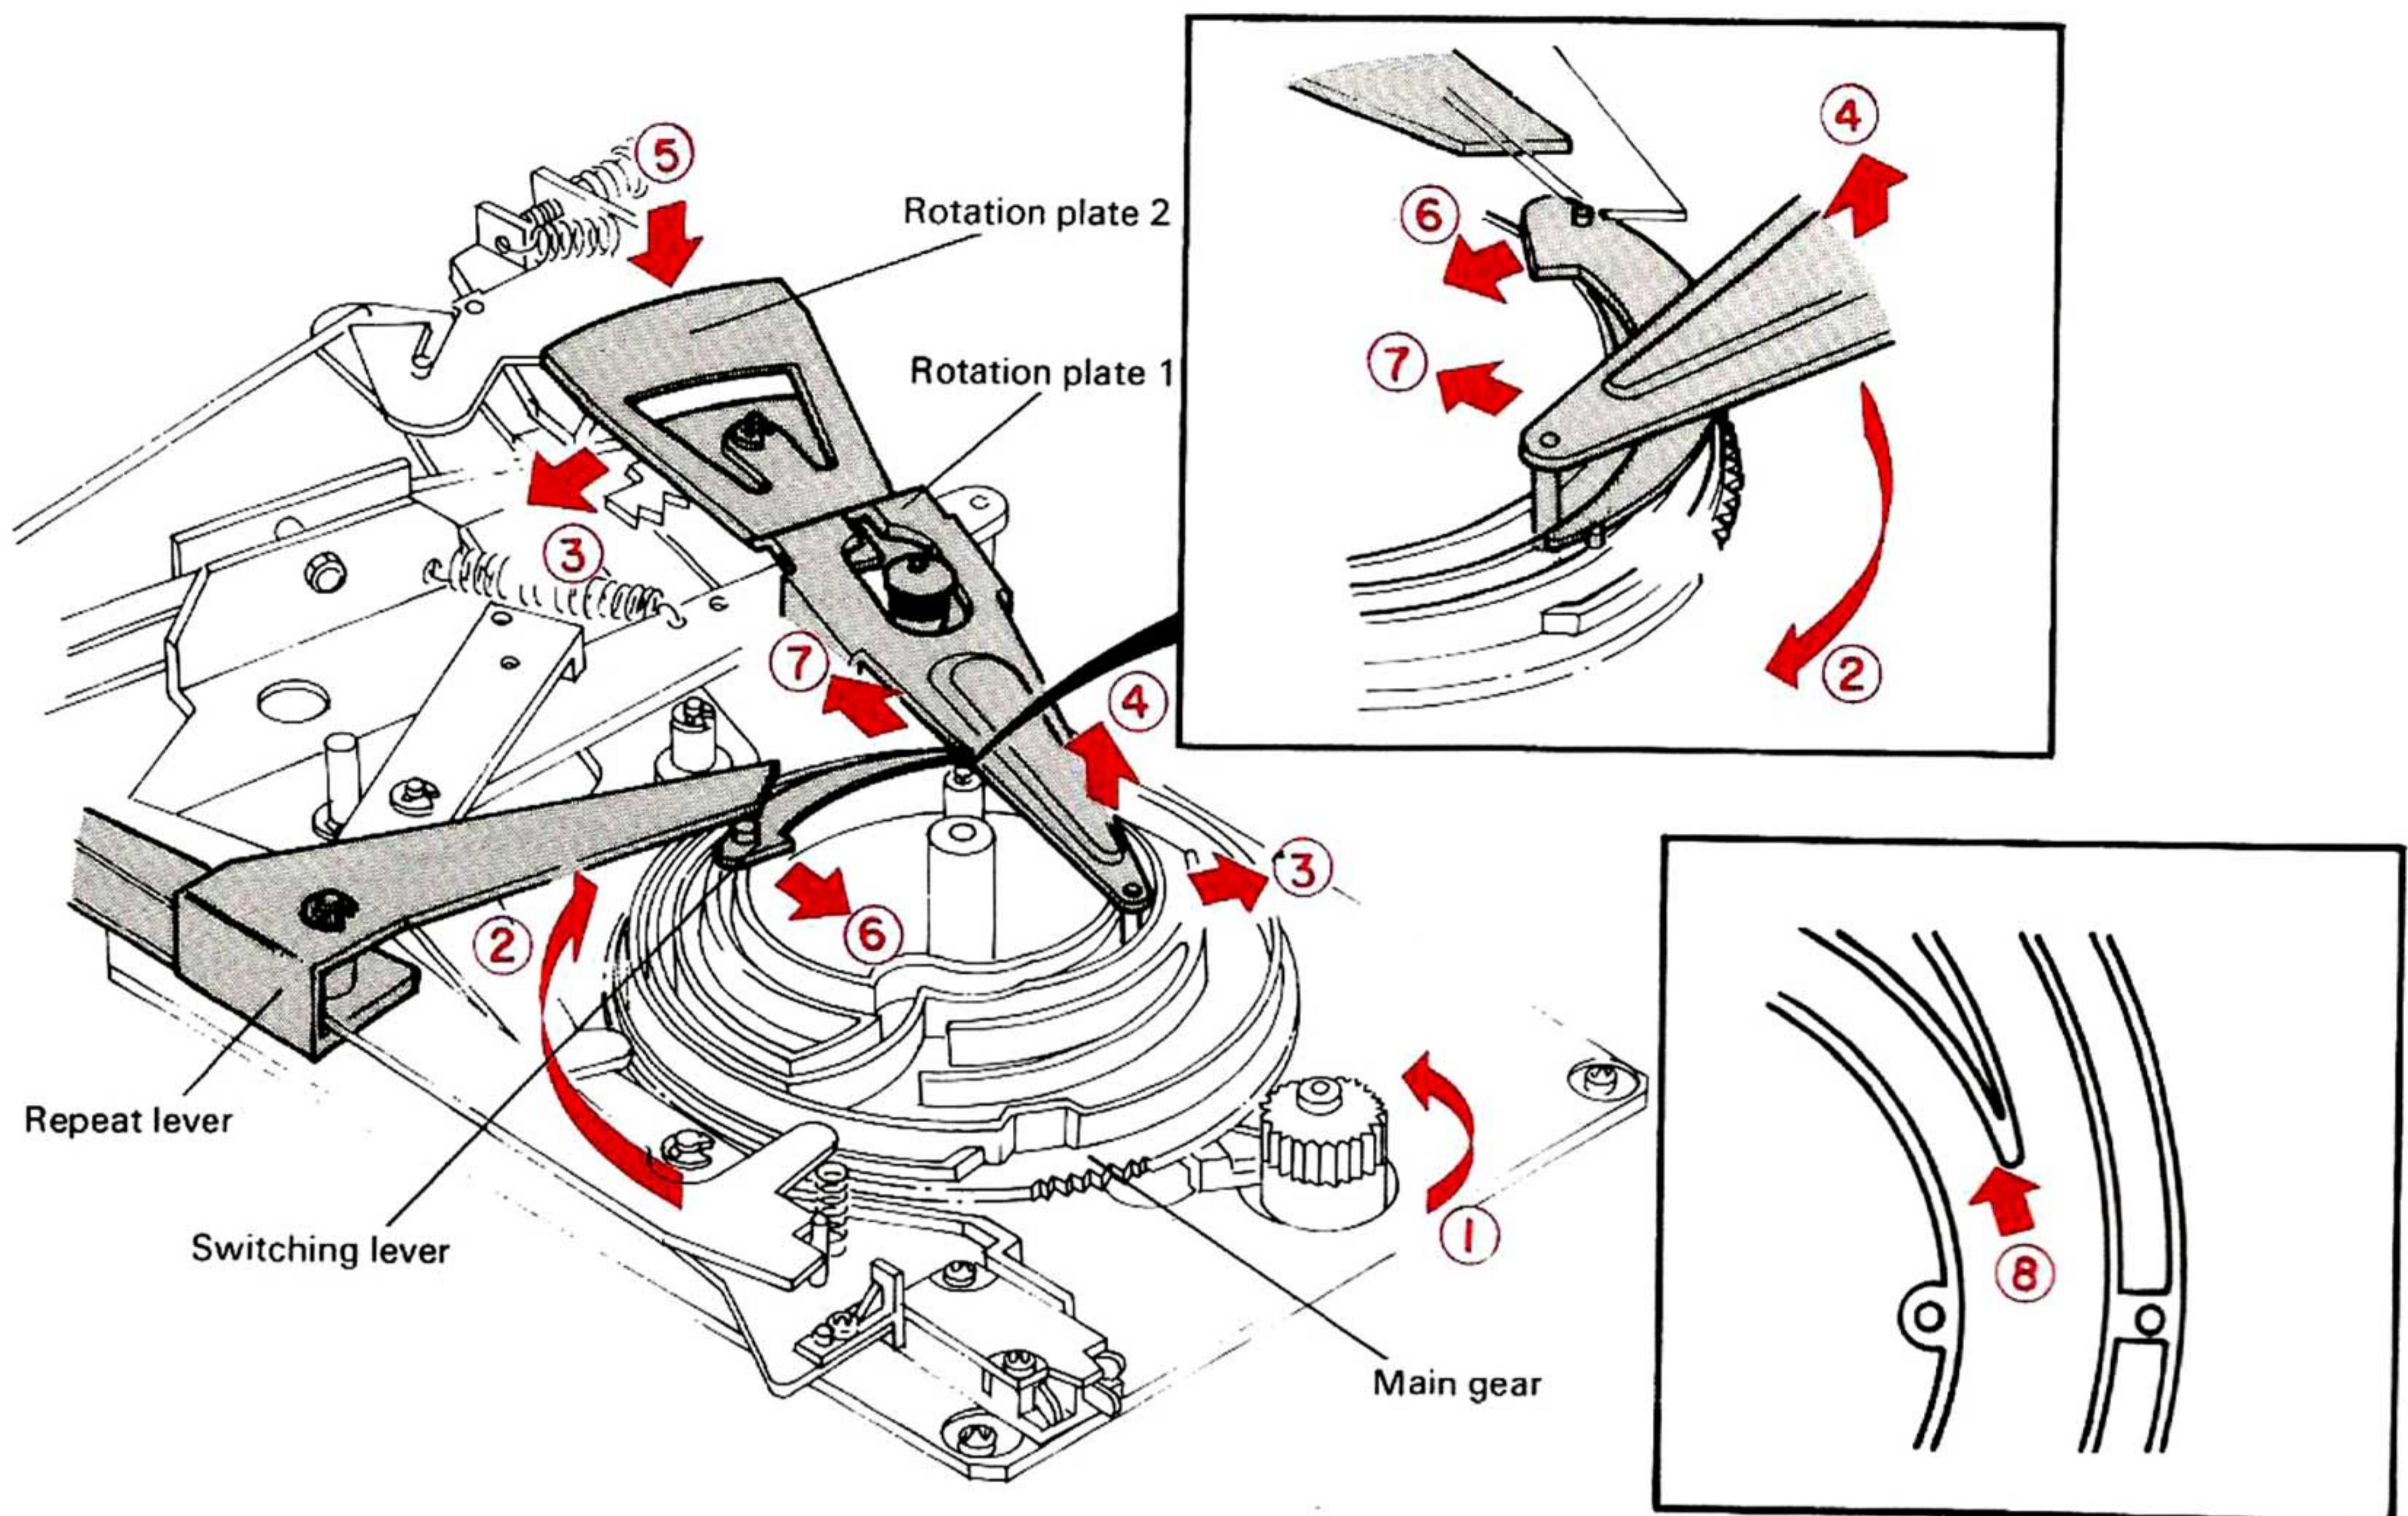

Fig. 3 Rotation of Main Gear
When the turntable is rotating in direction ①, the main gear rotates in direction ②, resulting in the rotation plate 1 moving in direction ③. As the depth of the main gear groove becomes shallower, the rotation plate 2 rises in direction ④ and the rotation plate 1 is lowered in direction ⑤. As a result of this motion, the tonearm rises (Fig. 3).
When the main gear rotates further, the switching lever is shifted in direction ⑥ by the repeat lever and the rotation plate 1 enters the inner groove of the main gear (in directions ⑦ and ⑧) (Fig. 3).